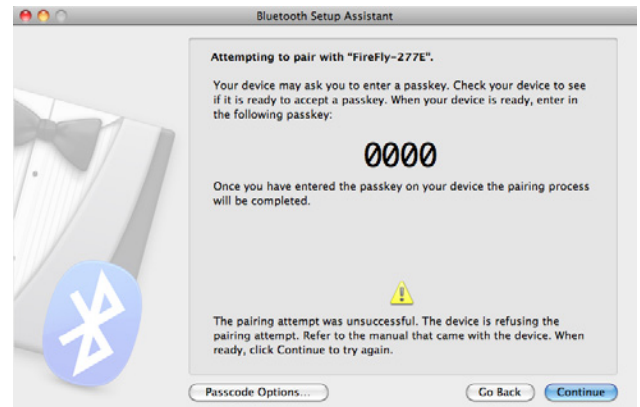

Figure 8-24. The default passkey failing
2. Mac OS X will try to pair using the passkey 0000, which will fail (Figure 8-24). Click Passcode Options.